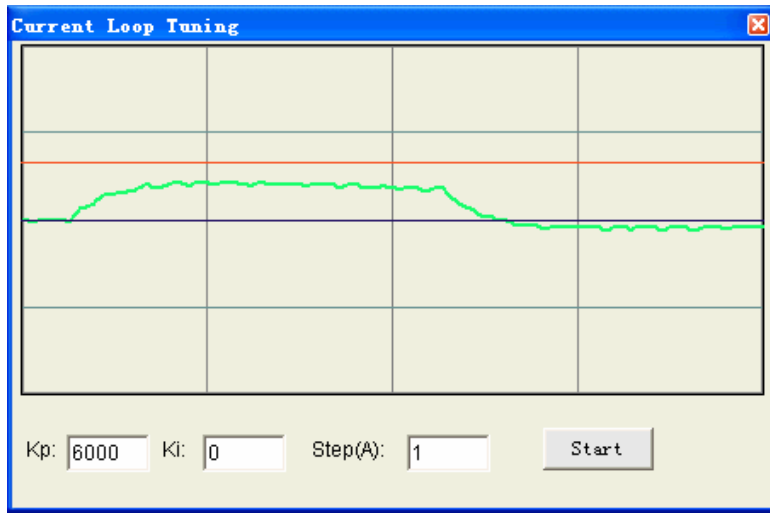

Figure3-3: Current loop tuning with with  $K_p=6000$ ,  $K_i=0$
**Step 3:** Increase  $K_p$  to 6000 and click Start. The gap between target value and actual value is smaller but a higher  $K_p$  is needed. See figure 3-3.